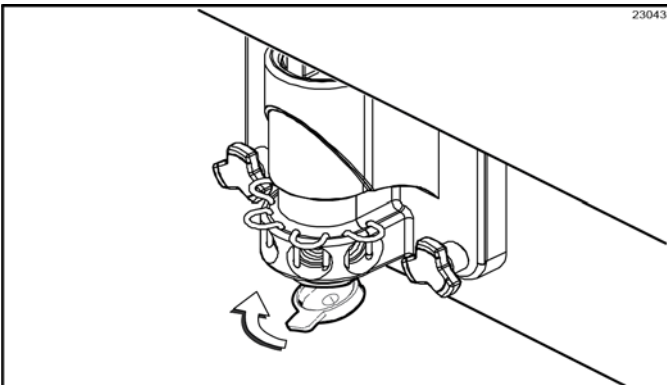

Figure 6-17
17. Snap the restrictor cap over the end of the door spout and install the syrup valve retainer pins. (See Figure 6-17.)